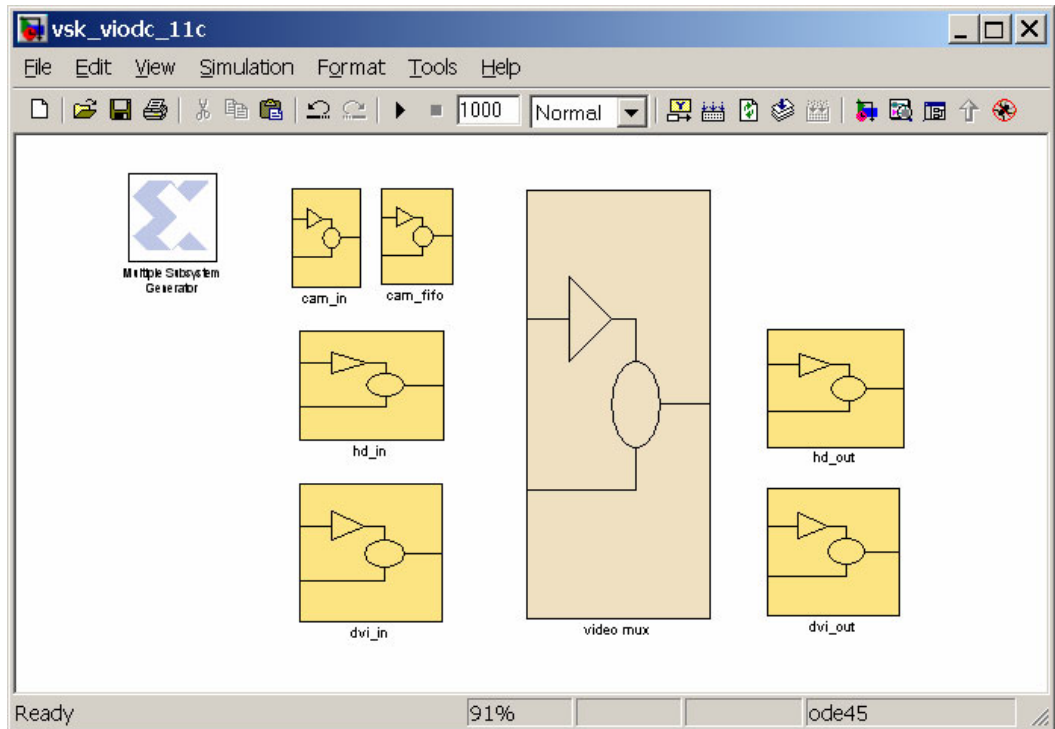
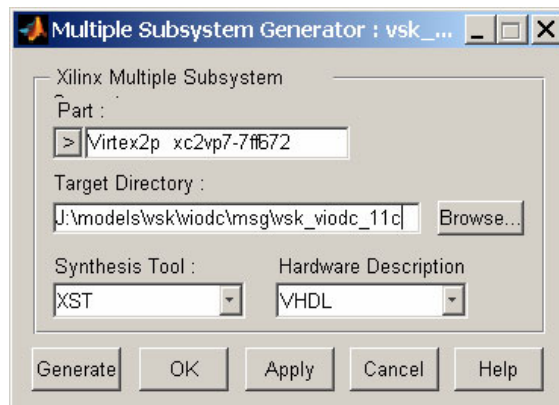

Figure 7-2: vsk\_viodc\_11c Top Level
Figure 7-3: MSG Generate Block
1. Open the top-level design `vsk_viodc_xxx.mdl` (Figure 7-2) and open the Multiple Subsystem Generator block (Figure 7-3).